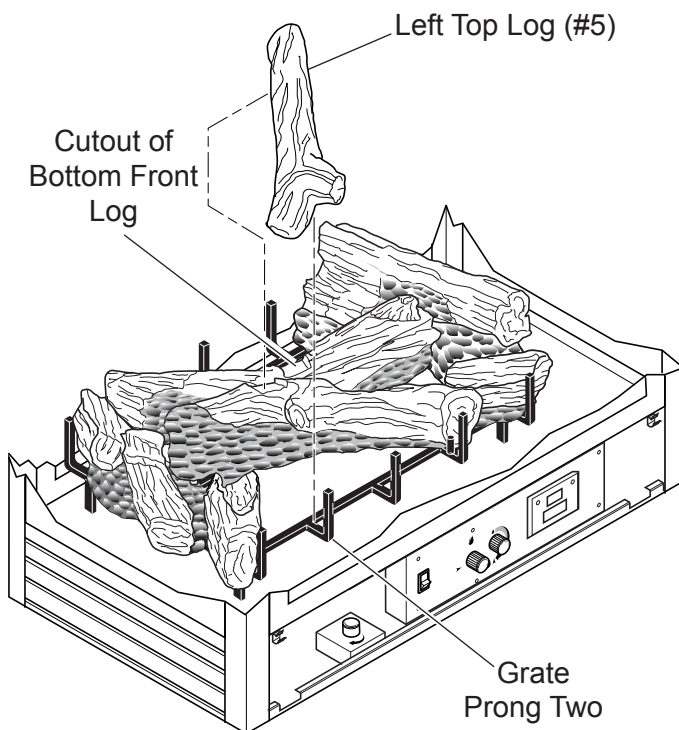

Figure 47 - Installing Left Top Log (#5)
7. Place back end of left top log (#5) on cutout of bottom front log (#4). Position front of left top log (#5) on grate prong two. See Figure 47.